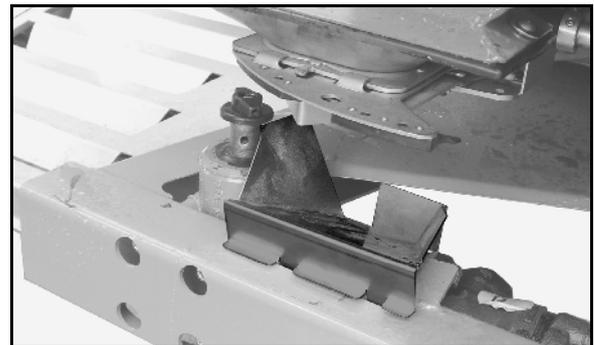

Fig. 53
5. Insert funnel for fertiliser on frame below the left outlet opening (Fig. 53).